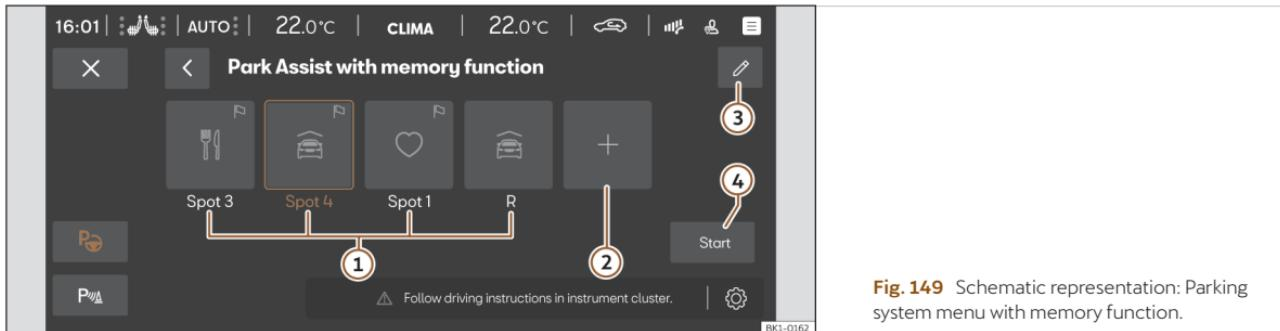

Fig. 149 Schematic representation: Parking system menu with memory function.
4. Select the function button, assign the symbol you want (>>> **Fig. 149 ①**) and confirm it.
1. Press >>> **Fig. 149 ③**.
2. If necessary, click on the parking space available icon in the Parking System menu >>> **Fig. 149 ①**. The function button will be displayed in blue.
3. Press the **Start** button >>> **Fig. 149 ④**.